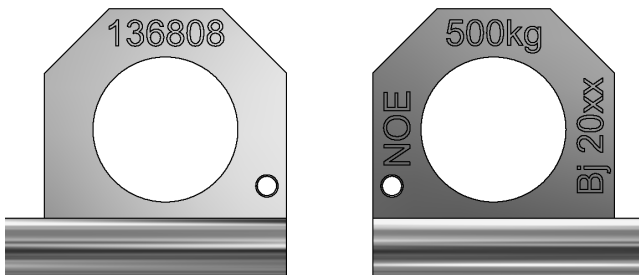

Figure 1
5. The NOE lifting pin must not be subjected to loads in excess of its load capacity (Fig. 1).
The labelling on the lifting pin (see Figure 1) complies with DGUV 100-500, Chapter 2.8, Clause 3.4